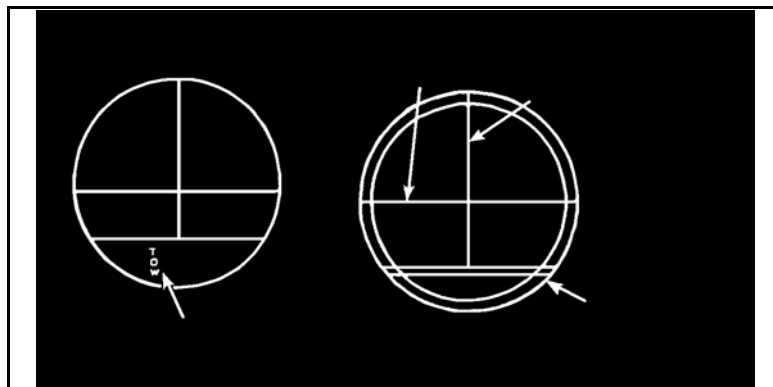

Figure 5. TOW status indicator.
10. Move the gun elevation drive select lever to power position and move the turret traverse drive select lever to manual position (Figure 5, page 3-222).